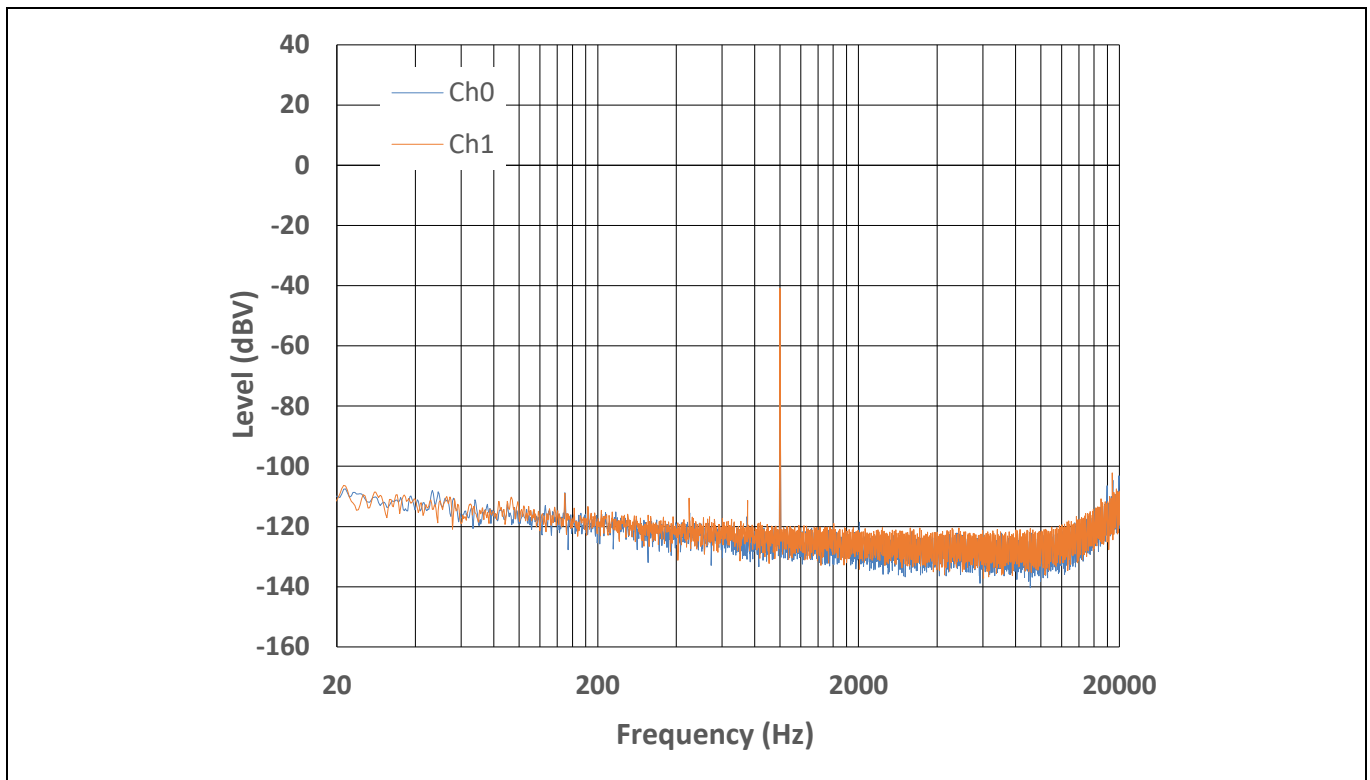

Figure 10 Output FFT spectrum
The Figure 10 shows the output spectrum that has been obtained by applying 1 mVrms (1 kHz) input signal to both channels. This gives an output signal of -40 dBV. The noise floor for these settings is shown in the Figure 10. The integrated, A-weighted noise floor number for both channels is 70 μ Vrms (AW).